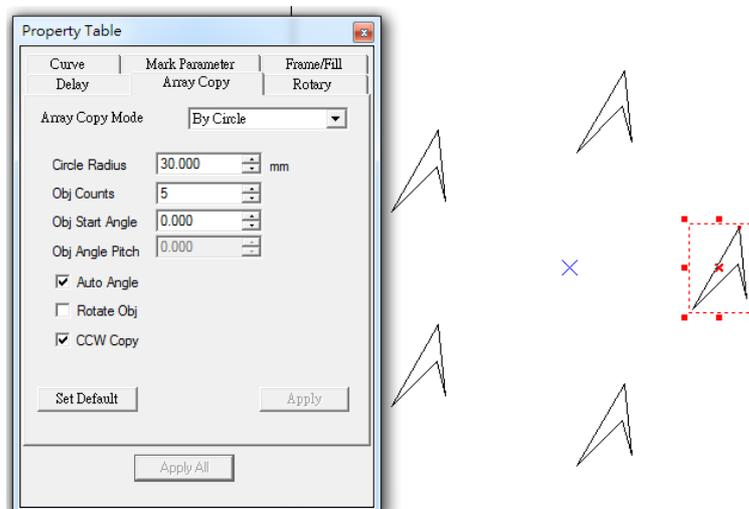

Fig. 3.2.17
**Rotate Object:** Decide to rotate the object or not. Fig.3.2.16 uses this function, but Fig.3.2.17 doesn't.